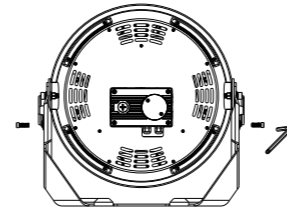

Figure 2
- 2: Fix it with M8 screws after adjusting to the required the angle (Figure 2).